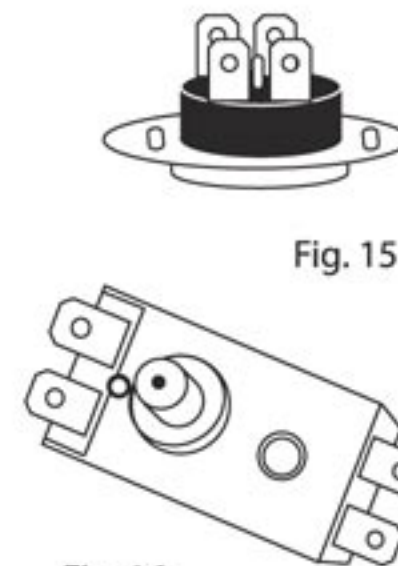

Fig. 15
- for MS2 series horizontal-type water heaters: press the button, located in the center of the thermal switch, placed near the heating element (with a round shape), until it clicks, Fig.15;